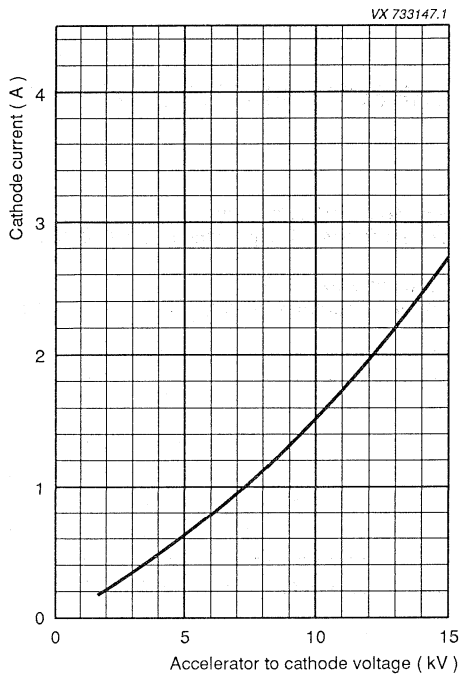

Fig. 4.
6. For cathode current versus accelerator-to-cathode voltage, see Fig. 4.
Additionally the accelerator electrode voltage allows adjustment of the beam current between 0 and 100 %. See Fig. 4.